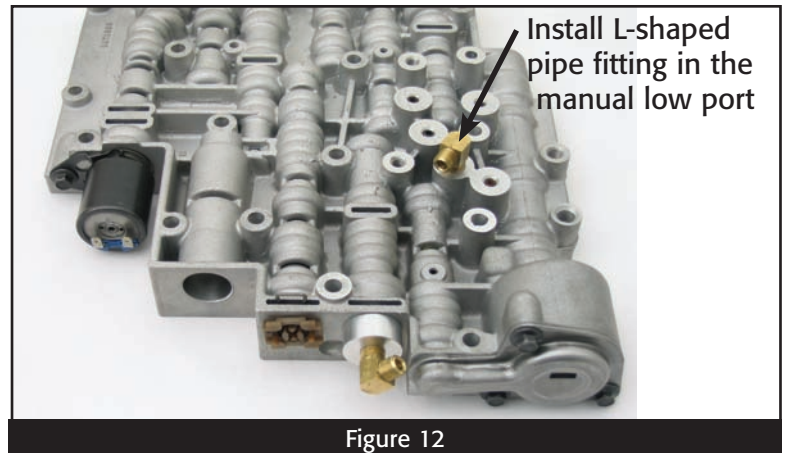

Figure 12
- 3) Drill and tap the manual low port that normally feeds the pressure switch manifold with a 1/8" pipe tap. Install another L-shaped pipe fitting in this location, aiming it toward the other fitting (figure 12).